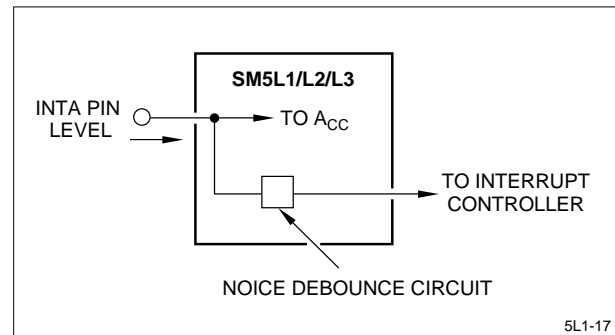

Figure 17. INTA Pin
- INTA level does not load directly through the noise debounce circuit (see Figure 17).